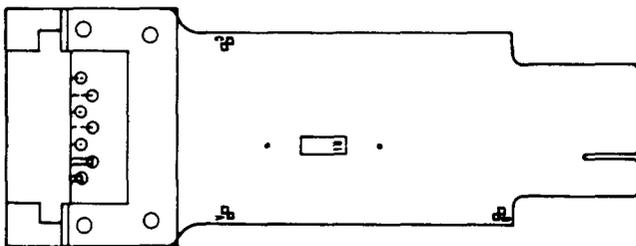

Fig. 9—804A Extender Tool
2.17 804A: The 804A extender tool (Fig. 9) is used to extend the D39 circuit packs for testing.